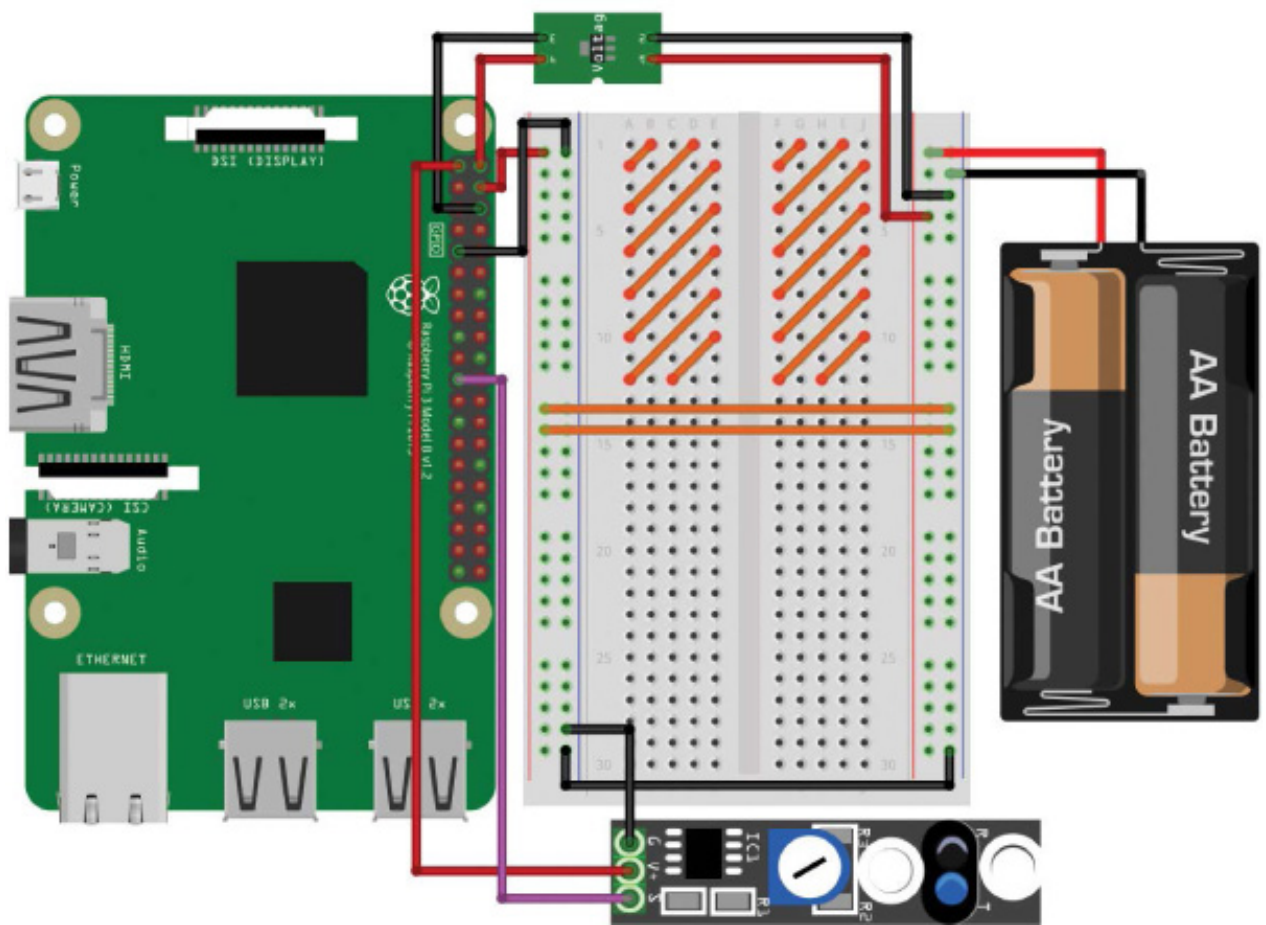

FIGURE 7-12 Completed breadboard diagram with your TCRT5000 line-following sensor module wired up and in place
3. Use another jumper wire to connect the data output pin of your sensor (OUT) to physical pin 21 on your Raspberry Pi. This is BCM 9. Your complete circuit should look like Figure 7-12.